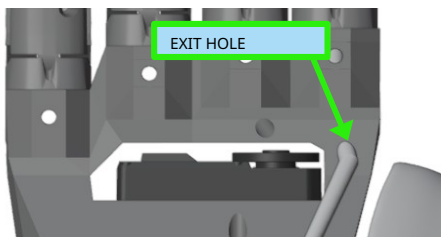
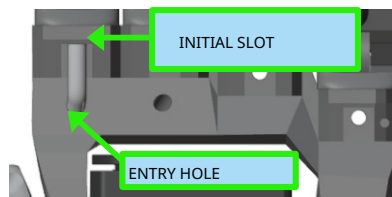

Figure 5.20: Inserting tube into the tendon exit hole (rear view)
Figure 5.22: Inserting tube into the initial slot (front view)
1. Insert the PTFE tube into the exit hole (on the back of the skeleton) of the flexion tendon (figure 5.20), pull it out from the entry hole on the front of the skeleton and insert it into the initial slot figure 5.22)